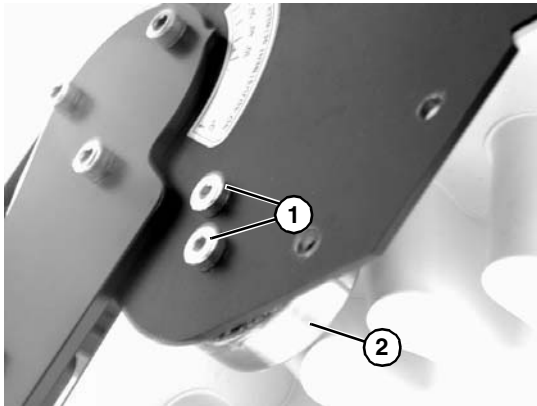

Figure 26
7. Remove screws (Figure 26, item 1) and remove roller bearing (Figure 26, item 2).